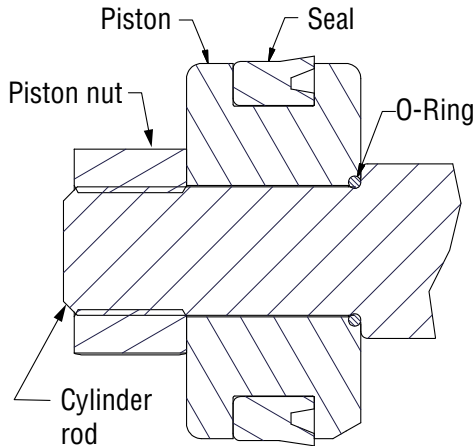

Figure 4-5, Piston Seal
2. Note the direction of the seal on the piston. Improper installation will result in poor performance. The cupped side or O-Ring side of the seal should be facing the gland cap. (Figure 4-5)